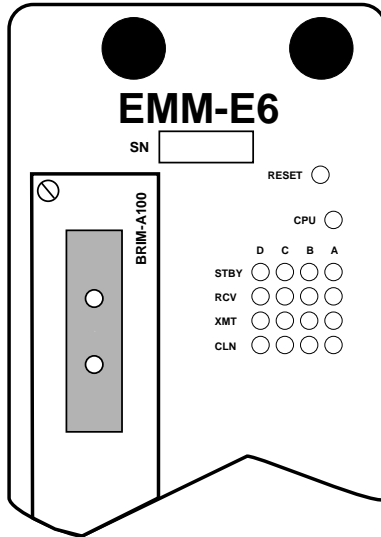

Figure 3-8. EMM-E6 LANVIEW LEDs
7. Observe the status of the LANVIEW LEDs on the EMM-E6. When the CPU LED is flashing, the STBY (standby) LEDs indicate the module's boot state. During this period (up to 5 minutes), the LEDs cycle through a series of internal diagnostics. (See Figure 3-8)